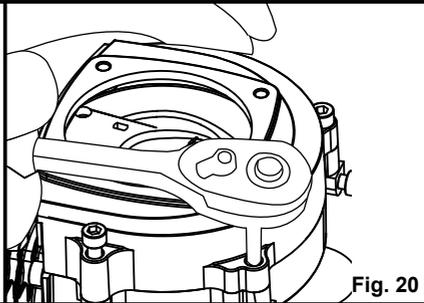

Fig. 20
- Remove the 2 screws to remove the flywheel cover (Fig. 20).